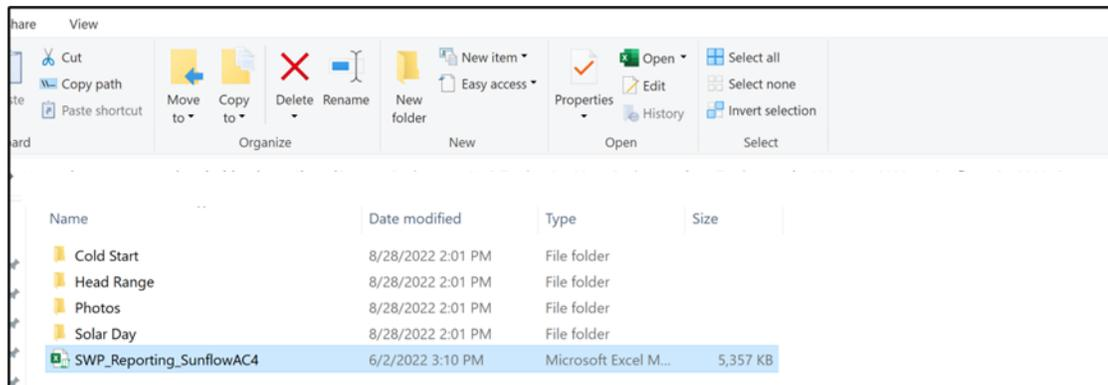

Figure 2: Testing subfolders for each new pump.
- b. Within the testing folder, there should be a series of subfolders for each of the tests that require a separate data analysis spreadsheet from the main reporting spreadsheet as seen in Figure 2.
- c. The reporting template should stay in the main testing folder outside of any of the subfolders as seen in Figure 2.